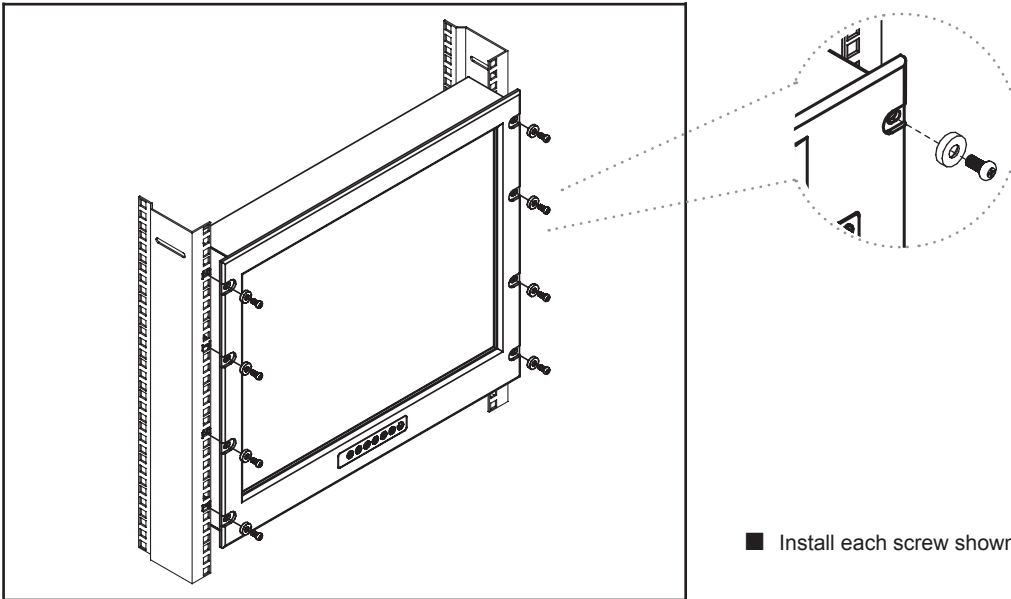

Figure 12.
- Install each screw shown in Figure 12.